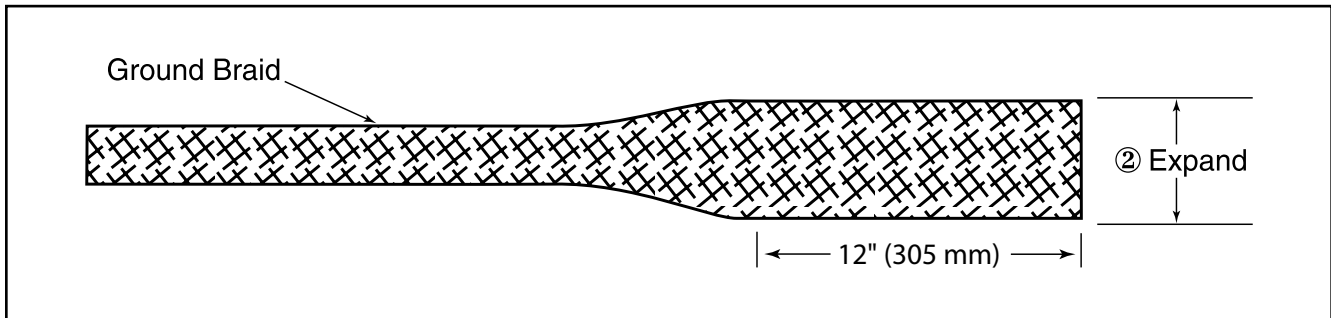

Figure 2
- 2.1 Cut supplied tinned copper grounding braid into three equal 2' (610 mm) lengths. Expand each braid end for a distance of 12" (305 mm) (② Figure 2).